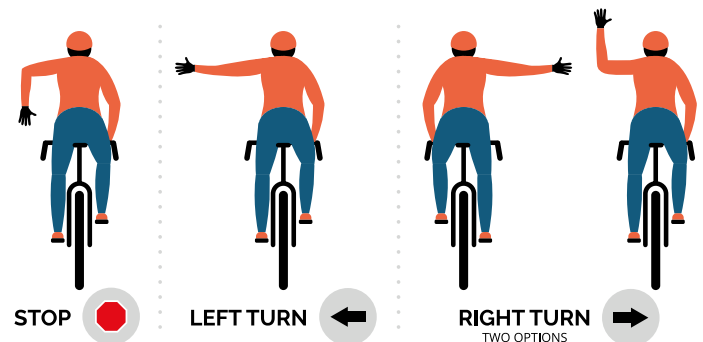

Fig. 3
7. Use approved hand signals for turning and stopping. (FIG 3)